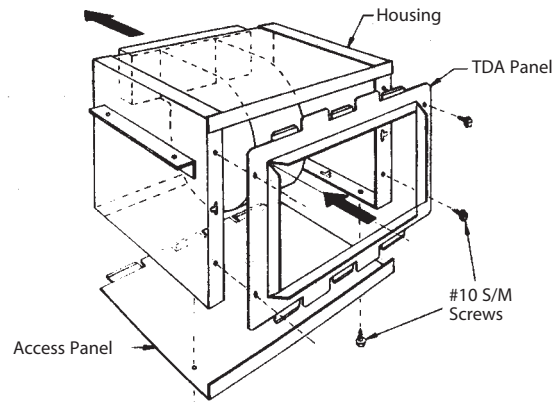

FIGURE 26: "TDA" (IN-LINE)
Note: As a standard, TDA units are furnished with an In-line discharge as shown in Figure 26.
1. Disassemble the TDA panel from the housing by removing the four #10 sheet metal screws. Remove both panels as shown in figure 26.